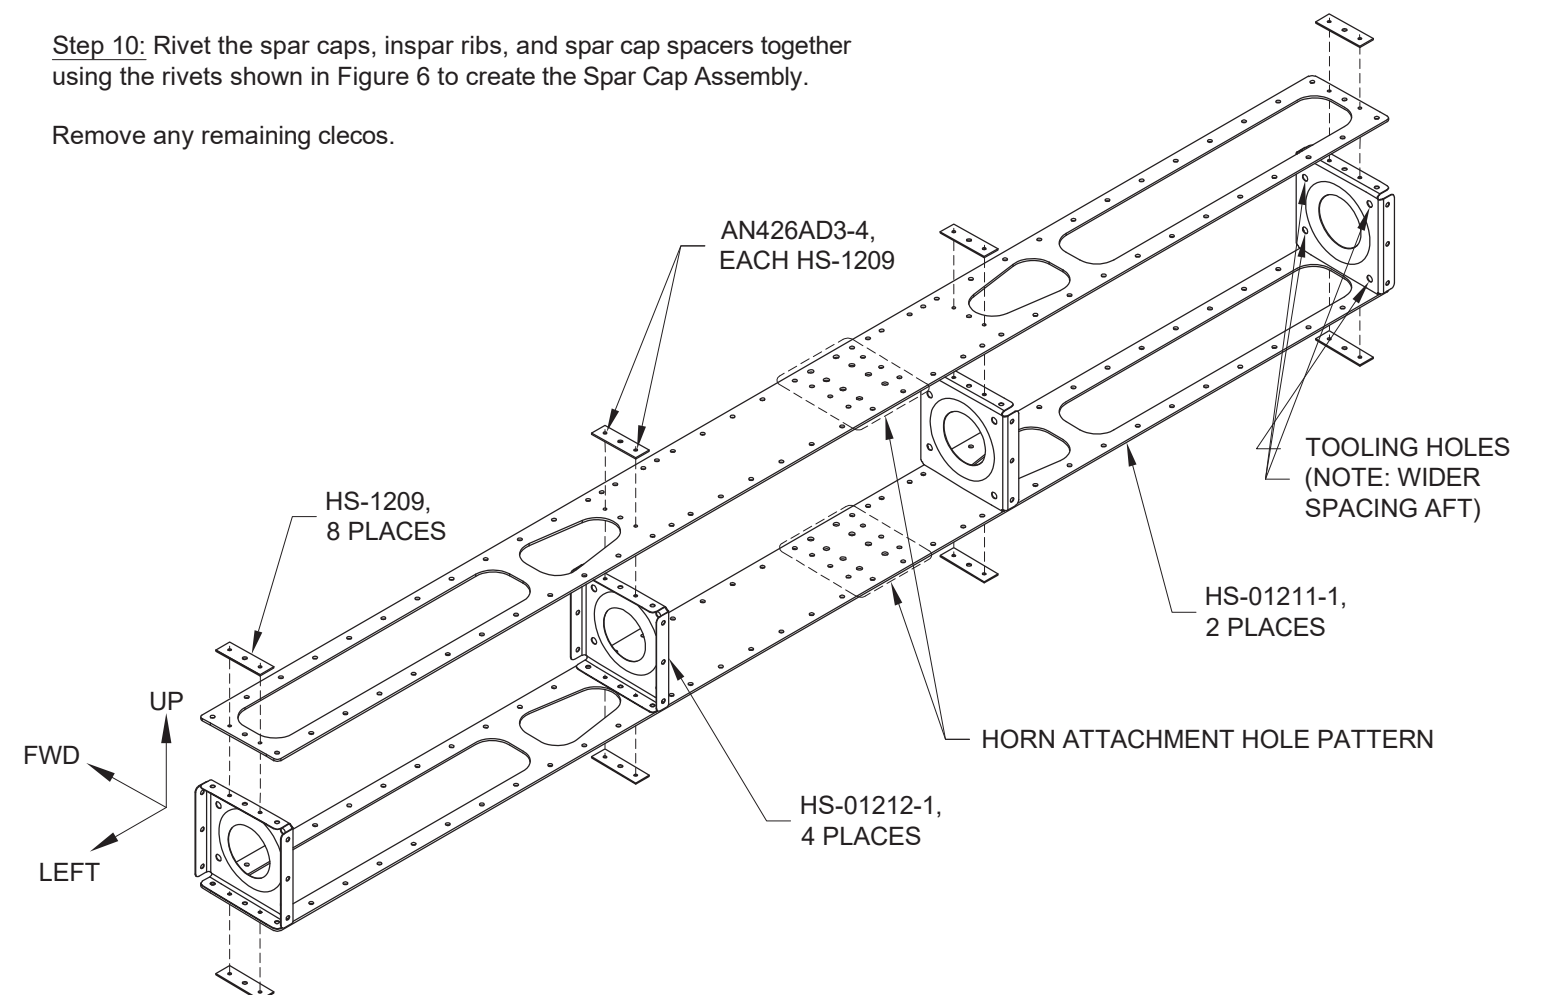

FIGURE 6:
Step 9: Cleco the spar cap spacers, the HS-01212-1 Inspar Ribs and the two HS-01211-1 Spar Caps together as shown in Figure 6. Orient the spar caps so that the horn attachment hole pattern in the upper spar cap aligns with the same hole pattern in the lower spar cap, and the countersunk holes in the spar cap spacers face away from the inspar ribs. Orient the inspar ribs with the tooling holes positioned as shown in Figure 6. When all the parts are oriented correctly the holes in the web of each rib will align when sighting through all of the ribs from one end.
Mark the assembly for Top and Forward, see alignment arrows in Figure 6.
Step 10: Rivet the spar caps, inspar ribs, and spar cap spacers together using the rivets shown in Figure 6 to create the Spar Cap Assembly.